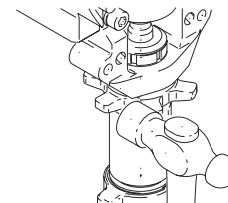

FIG. 19
3. FIG. 19. Screw jam nut onto pump until nut stops. Screw pump into bearing housing until stopped by jam nut. Back off pump and jam nut to align pump outlet to back. Hand tighten jam nut; then tap 1/8 - 1/4 turn with a 20 oz hammer to approximately 75 +/- 5 ft-lb (102 N•m).